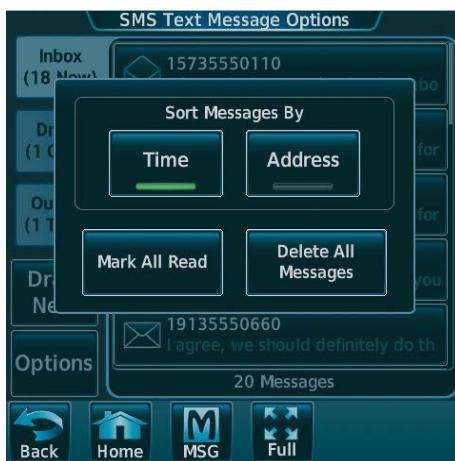

Figure 8-76 Message Sort Options
- 2) Touch the **Options** Tab. The 'Sort Messages By' selections are displayed as in Figure 8-76.
- 2) Touch the **Options** Tab. The selection buttons are displayed as in Figure 8-76.